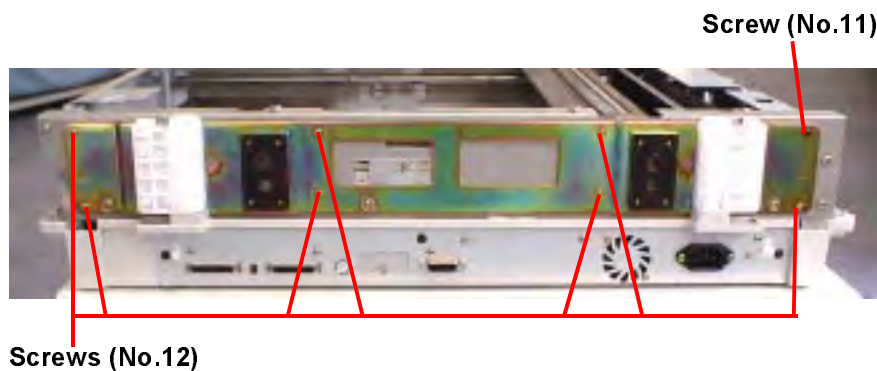

Figure 4-23. Option Frame Assembly Removal
- No.12: Rest of the positions are indicated in Figure 4-23 Option Frame Assembly Removal below.